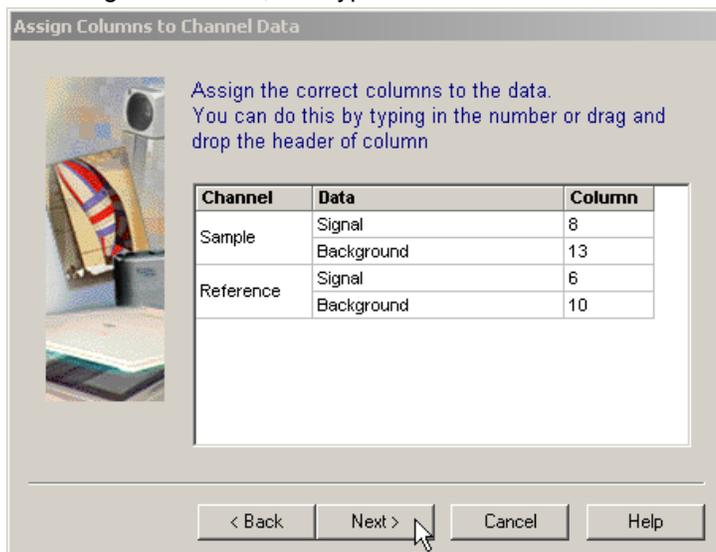

Figure 11. Assign Columns to Channel Data Dialog Box
- e. Enter the appropriate column numbers in the text boxes as shown in Figure 11. Verify the entries by reviewing the corresponding data in the source file.